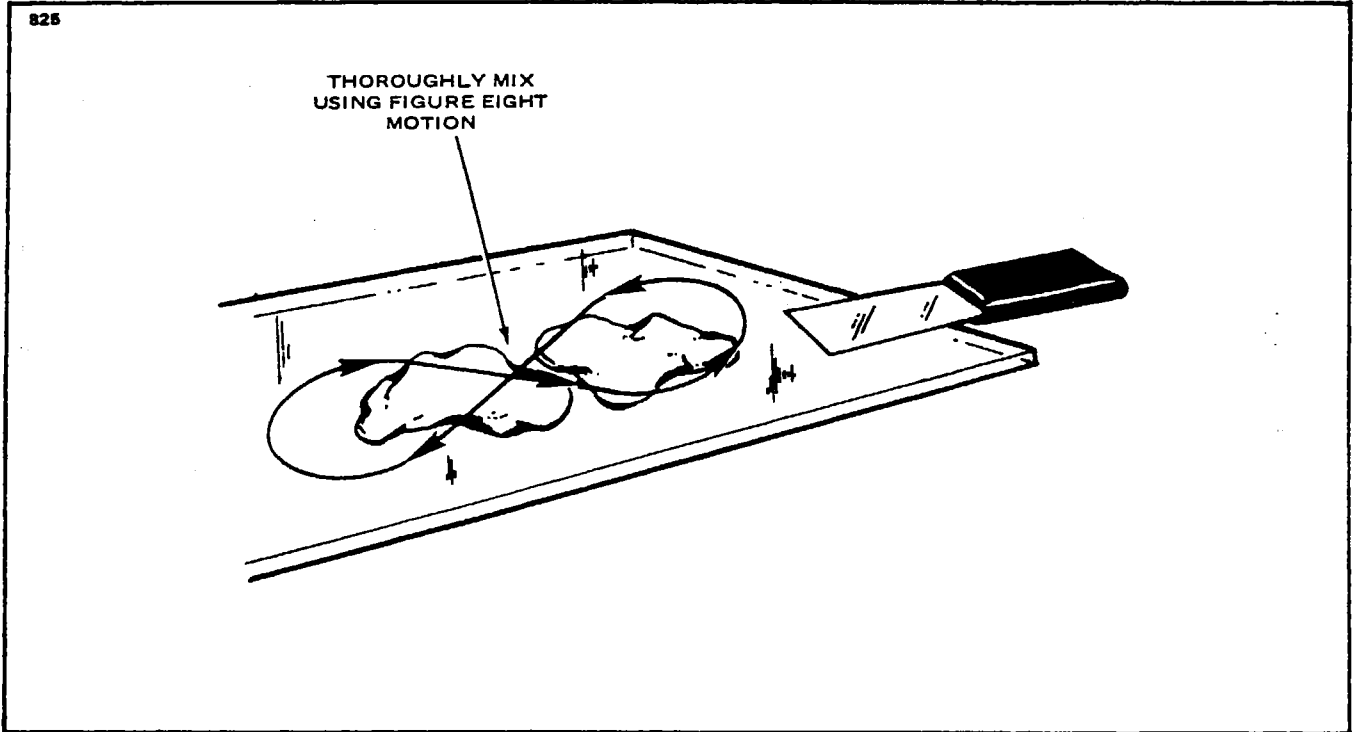

Figure 4-33. Mixing of Epoxy Patching Compound
c. Deep Scratches, Shallow Nicks and Small Holes: (Less than 1 inch in diameter.) (Refer to Figure 4-33.)
6. The patching compound is mixed in equal portions on a hard flat surface using a figure eight motion. The damaged area is cleaned with perchlorethylene or VM&P Naphtha prior to applying the compound. (Refer to Figure 4-33.)